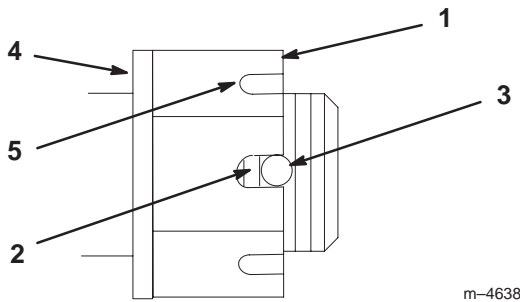

Figure 52
3. Torque the slotted nut to 125 ft-lb (170 N·m) (Fig. 52).
4. Check the distance from the bottom of the slot in the nut to the inside edge of the hole. Two threads or less should be showing (Fig. 52).
5. If more than two threads are showing, remove the nut and install a washer between the hub and nut (Fig. 52).
6. Torque the slotted nut to 125 ft-lb (170 N·m) (Fig. 52).
7. Tighten the nut until the next set of slots line up with the hole in the shaft (Fig. 52).